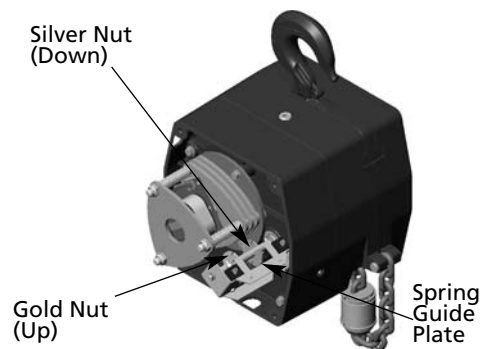

Figure 3 — Limit Switch Assembly
Refer to Figures 3 & 4.
3. Using a screwdriver, pry the spring guide plate out of the slots in the limit switch nuts (See Figure 3). Turn the gold nut back to about the center of the threaded screw. Do not disconnect the wires from the limit switches.
Refer to Figure 3.